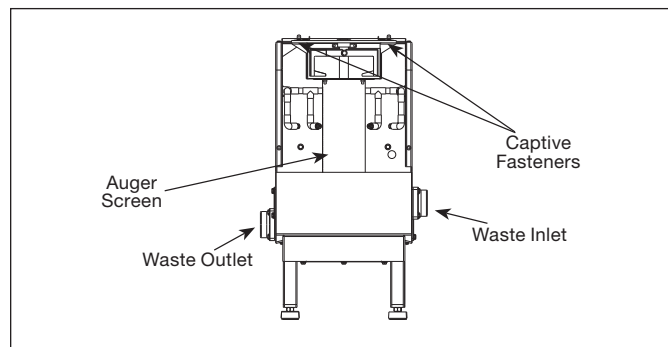

Figure 14. Cover Removed
- B. Remove auger-bearing bracket by sliding the two captive fasteners inward and then pull bracket upward (see Figure 14).
- C. Lift auger and screen up and then out (see Figure 14).